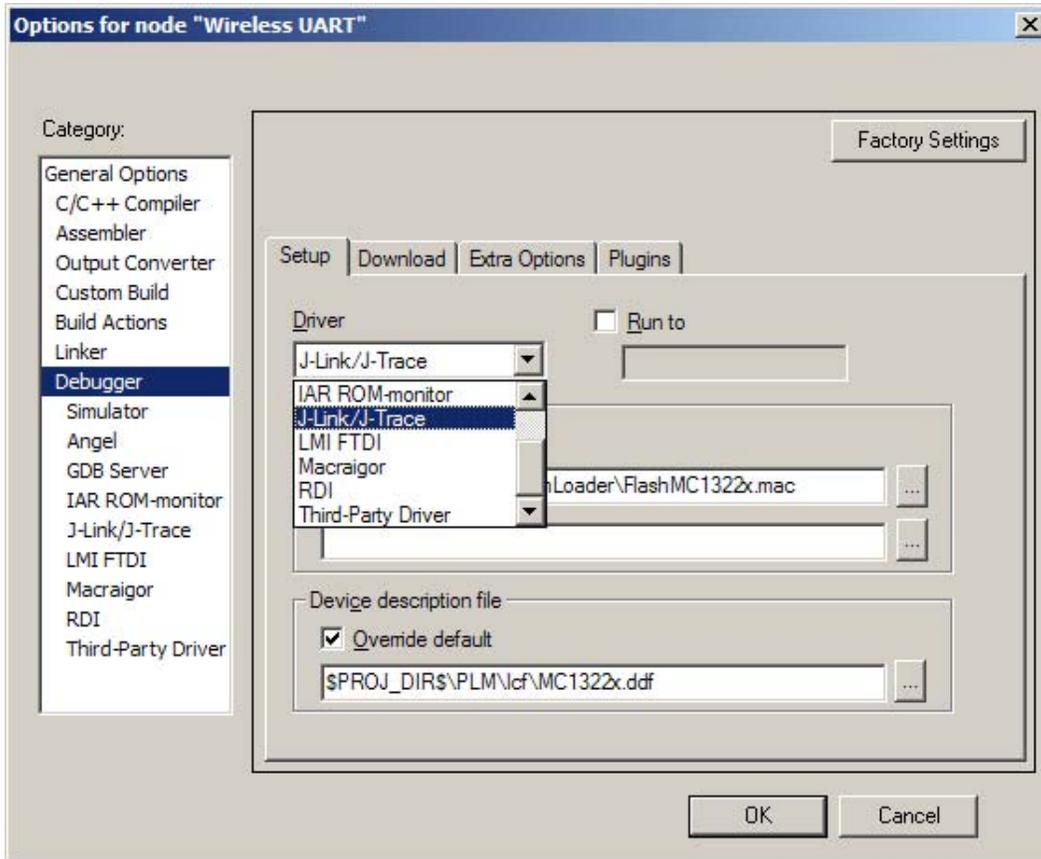

Figure 1-14. Debugger Setup
- At the debugger category on the Setup tab, select the “J-Link/J-Trace” option as shown in Figure 1-14.